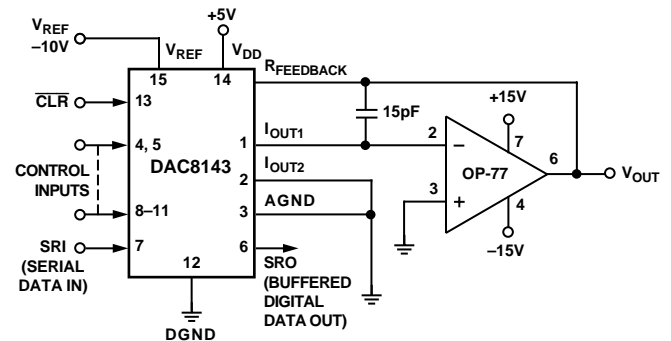

Figure 16. Unipolar Operation with High Accuracy Op Amp (2-Quadrant)
1. Phase compensation (see Figures 16 and 17).
The circuit shown in Figures 16 and 17 may be used with an ac or dc reference voltage. The circuit's output will range between 0 V and $+10(4095/4096)$ V depending upon the digital input code. The relationship between the digital input and the analog output is shown in Table II. The V_{REF} voltage range is the maximum input voltage range of the op amp or ± 25 V, whichever is lowest.
¹Nominal full scale for the circuits of Figures 16 and 17 is given by
²Nominal LSB magnitude for the circuits of Figures 16 and 17 is given by
The transfer function for the DAC8143 connect in the multiply-mode as shown in Figures 16 and 17 is:
In most applications, linearity depends on the potential of I_{OUT1} , I_{OUT2} , and AGND (Pins 1, 2 and 3) being exactly equal to each other. In most applications, the DAC is connected to an external op amp with its noninverting input tied to ground (see Figures 16 and 17). The amplifier selected should have a low input bias current and low drift over temperature. The amplifier’s input offset voltage should be nulled to less than $\pm 200 \mu\text{V}$ (less than 10% of 1 LSB).